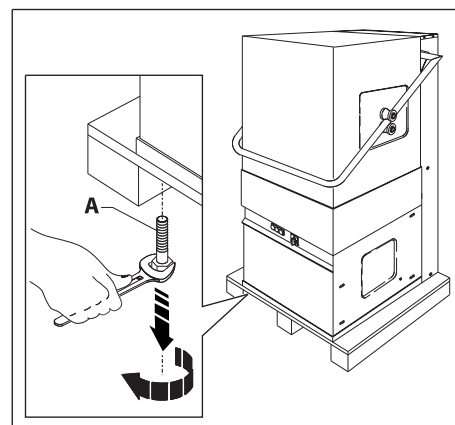

Fig. 3
2. Unscrew the two A screws that fasten the dishwasher to the transportation pallet (fig. 3)